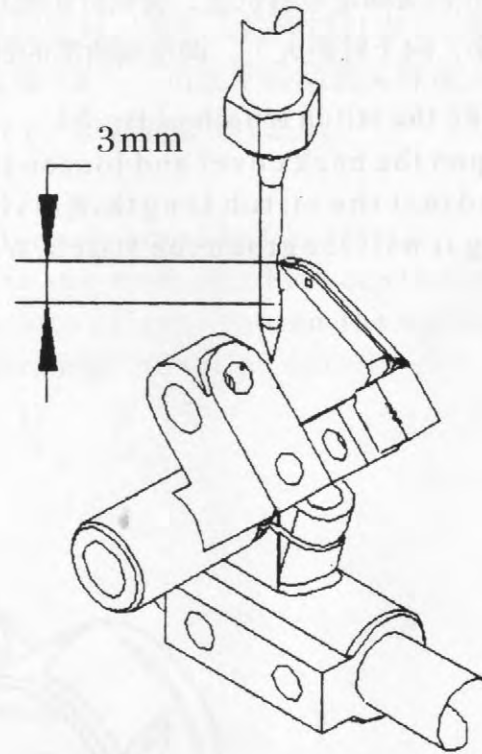

图 4
6、针杆高度的调整 (图4)
Adjusting the height of the needle (fig.4)